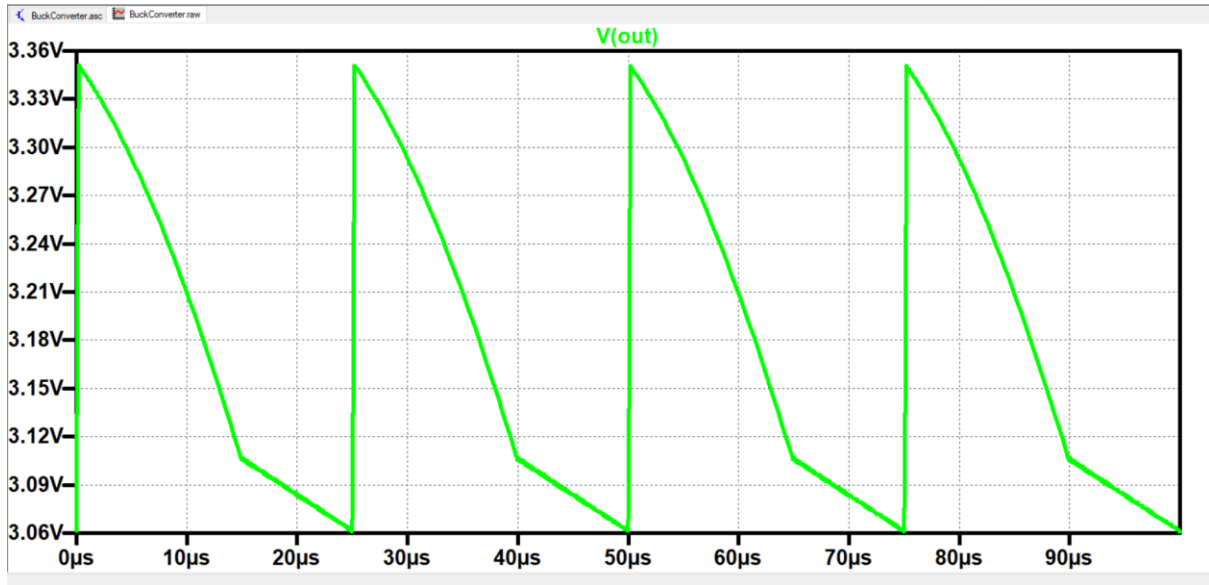

Figure 14: Output Voltage for 30 μ H Inductor
- h. To get the desired output voltage 3.3V, the switching frequency is changed, and the output voltage is simulated as shown in figure 14. Even though the output voltage is about 3.3V, ripple voltage is around 300mV, which is relatively high.